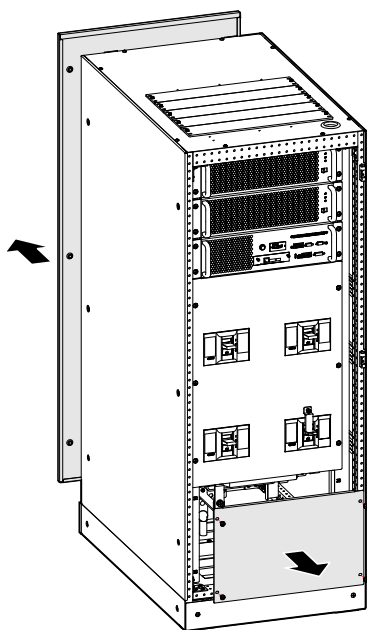

Figure3-33 Remove the back and top wiring cover plate of IST7-160, IST7-200
- Step 1 Open the door and remove the front and rear wiring cover plate. The position of cover plate of IST7-200 as shown in Figure3-33.